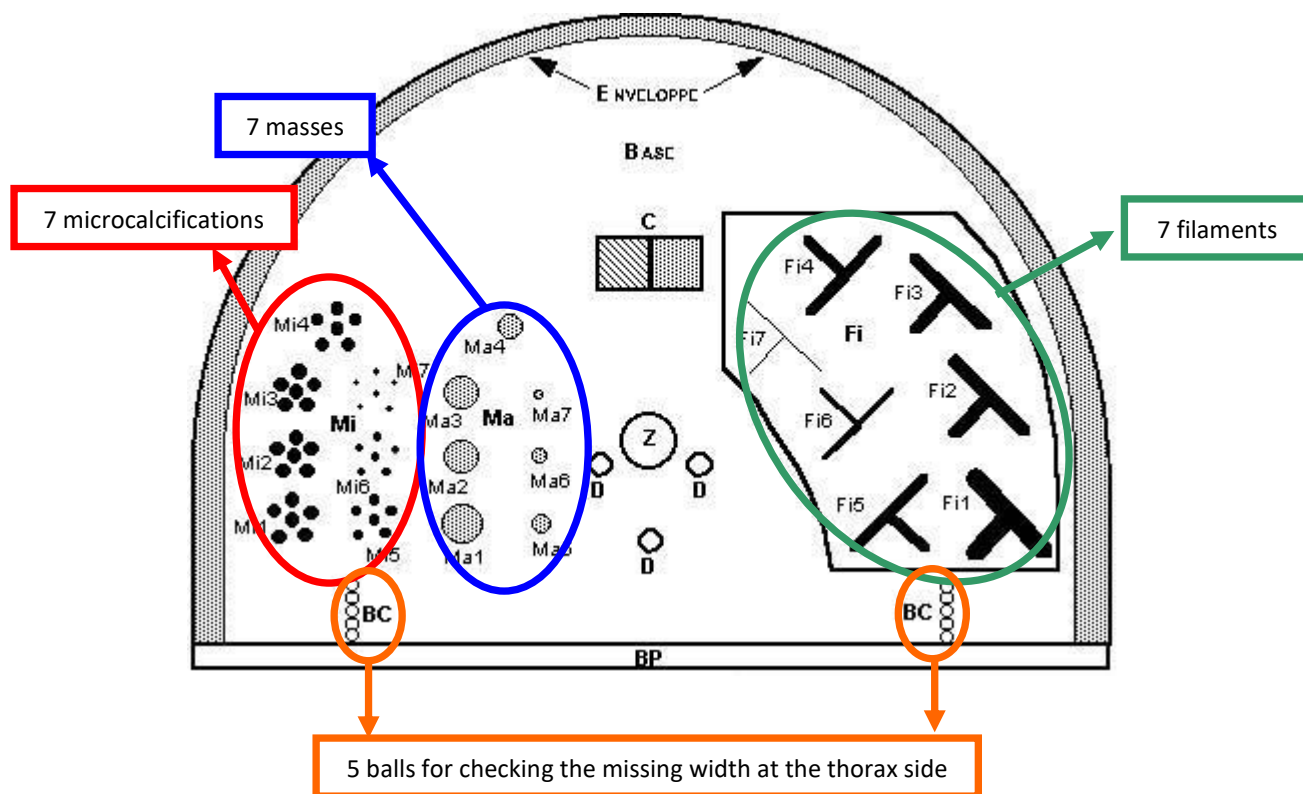

Figure 2a – MTM100 phantom
**Aim:** Evaluate the clinical image quality (detection performance) from the image of the MTM 100 phantom (Figure 2a) simulating a 45 mm thick breast.